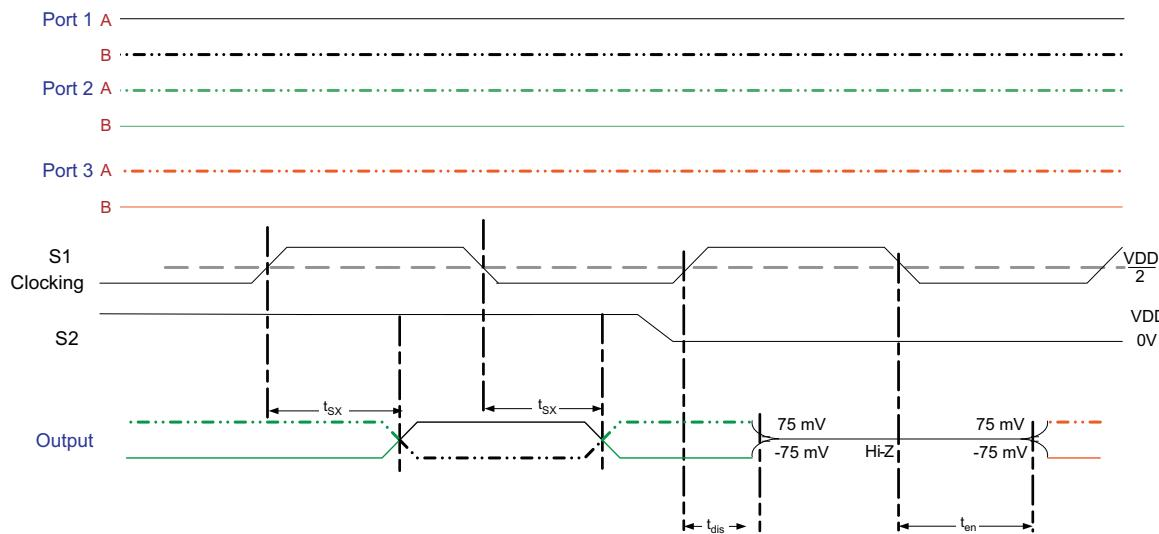

Figure 6. TMDS Outputs Control Timing Definitions
A. Channels 2, 3, 4, V_{CC} = A_{VCC} = 3.3 V, T_A = 25°C, R_{VSADJ} = 4.02 kΩ, See Figure 6
A. Channel 1, V_{CC} = A_{VCC} = 3.3 V, T_A = 25°C, R_{VSADJ} = 4.02 kΩ, See Figure 6
See Figure 6, Clock Channel = 185.6 MHz, Data Channel = 1.856 Gbps
See Figure 6, Clock Channel = 222.8 MHz, Data Channel = 2.228 Gbps